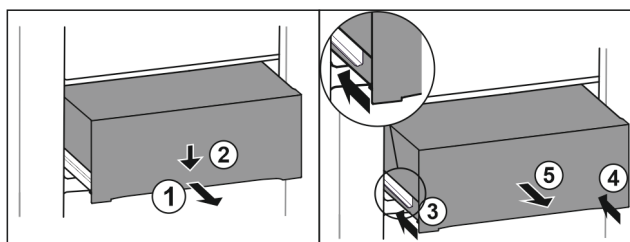

Fig. 133
- Pull out drawer half-way. Fig. 133 (1)
- Push the drawer down at the front. Fig. 133 (2)
- Push the left rail in by about 2 cm. Fig. 133 (3)
- Push the right rail in by about 2 cm. Fig. 133 (4)
- Remove drawer to the front. Fig. 133 (5)